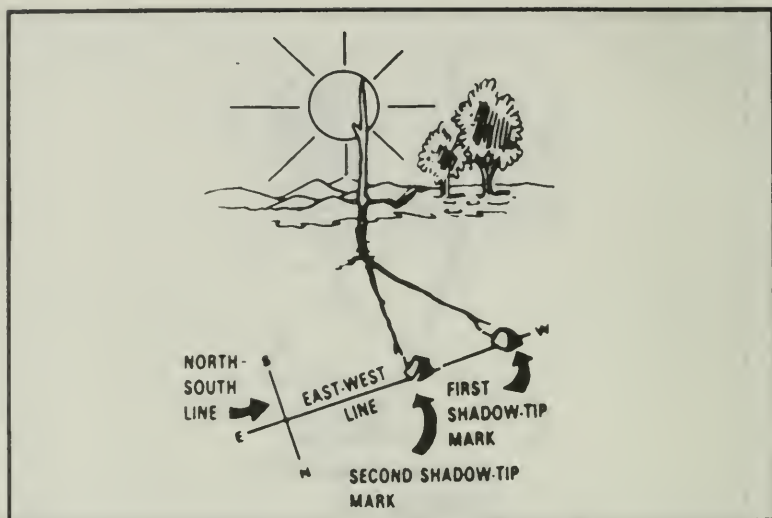

Figure 42. North-South line.
(1) Draw a line at right angle to the east-west line at any point (Figure 42).